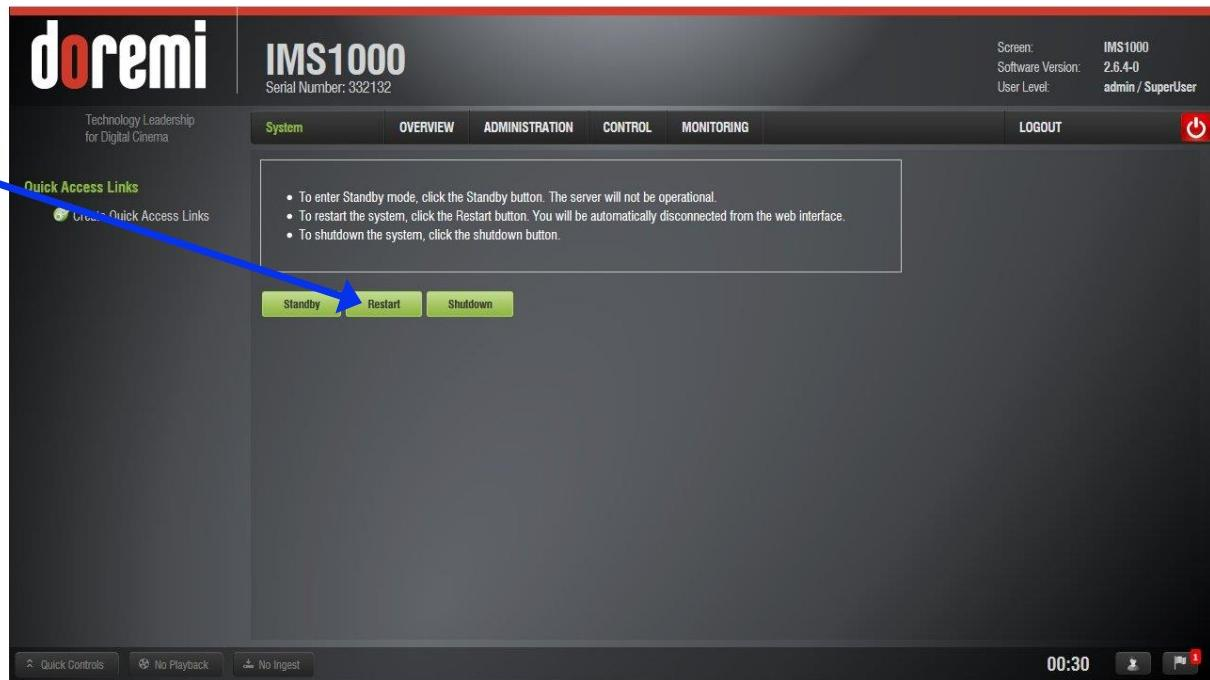

Figure 343: Restart
- Go to Administration → System → Restart (Figure 343).